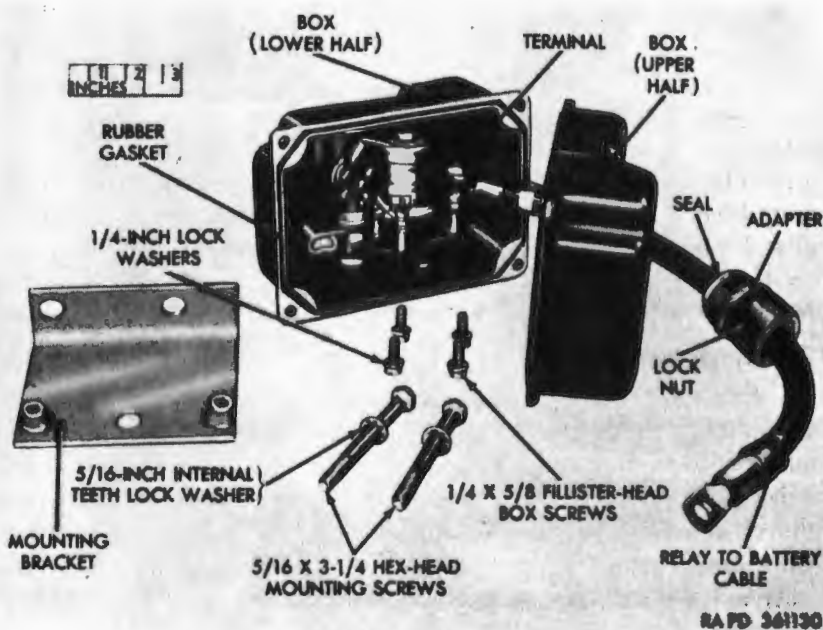

Figure 146. Master or starter relay box—separated.
Remove two hex-head bolts, hex nuts, and lockwashers securing the starter relay (fig. 143) to the relay bracket. Pull relay up to make lower cables accessible and remove two cables from receptacles on lower-half of relay box. Loosen coupling nut and unscrew cable adapter securing starter relay to starter cable connector cable to upper-half of relay box. Remove four fillister-head screws and lockwashers which secure the two halves of the starter relay box (fig. 146) together and separate the box. Disconnect the cable from the relay terminal post inside the box and remove the cable. Remove starter relay from vehicle.
b. Installation. If starter relay is being replaced, remove the four fillister-head screws and lockwashers which secure the two halves of the new starter relay box (fig. 146) together and separate the box. Position the starter relay in the vehicle and insert the starter relay to starter cable connector cable through hole in upper half of box and connect cable to the relay terminal post. Make sure that O-ring packing is in position in the recess provided in the lower-half and secure halves together with four $\frac{1}{4}$ x $\frac{5}{8}$ fillister-head screws and $\frac{1}{4}$ -inch lockwashers. Tighten to 3 to 4 pound-feet. Slide cable adapter into position and tighten into box. Check that seal is seated in coupling nut and tighten nut securely. Connect two cables to receptacles at the bottom of the relay and tighten the coupling nuts securely. Secure the starter relay (fig. 143) on relay mounting bracket with two $\frac{5}{16}$ x $3\frac{1}{4}$ hex-head bolts, $\frac{5}{16}$ -inch internal-teeth lockwashers, and $\frac{5}{16}$ -inch hex nuts. Tighten to 12 to 14 pound-feet. Connect ground cables to both battery sets and close battery access doors (fig. 236).
b. *Disassembly* (fig. 146). Loosen the waterproof knurled locknut and unscrew the cable adapter bushing from the upper half of the relay box. Remove the four fillister-head screws and lockwashers which secure the two halves of the master relay box together and separate the box. Disconnect the battery-to-relay cable from the relay terminal inside the box and remove the cable.
c. *Assembly* (fig. 146). If new relay is to be installed on the vehicle, remove the four fillister-head screws and lockwashers which secure the two halves of the master relay box together and separate the box. Install the battery cable through hole in upper half and connect the cable to the relay terminal inside the lower half. Make sure that rubber gasket is in position in the groove of the flange of the lower half. Place the two halves together and secure with four $\frac{1}{4}$ x $\frac{5}{8}$ fillister-head screws and $\frac{1}{4}$ -inch lockwashers. Tighten to 3 to 4 pound-feet torque. Slide the cable adapter into position and tighten into the box. Make sure that the seal is in position in the waterproof locknut and tighten the nut. Cover the locknut and adapter with tape.